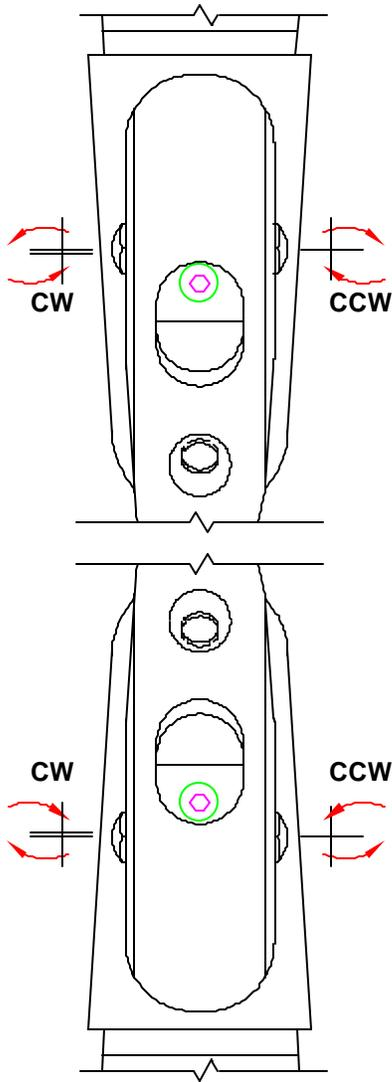
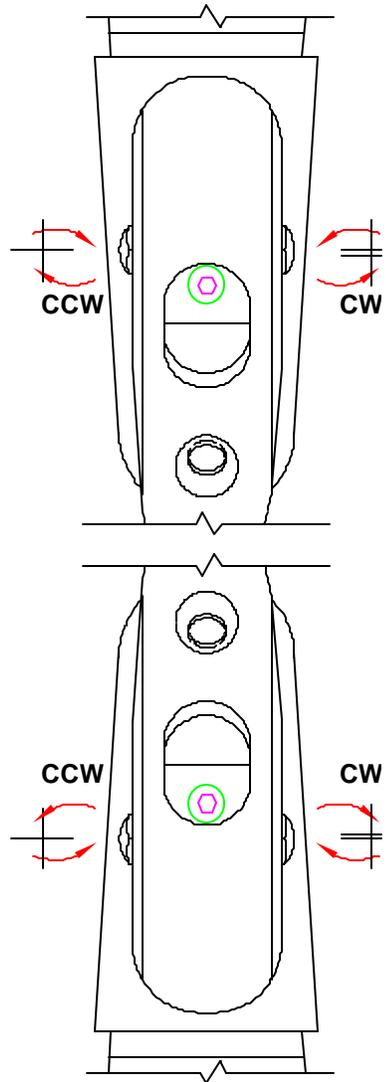

Fig. 2a
Fig. 2b
1. First string the Avalon Plus riser and limbs only. Check the limb alignment by viewing down the bowstring from end to end on the face of the bow. While looking down the string line, check the location of the tip you are holding to the face of the limb in your hand. The limb tip should be in the center of the limb, like shown in Fig. 1. If the tip is to the left of center, like Fig. 1a, follow the directions in Fig. 2a. If the tip is to the right of center, follow the directions in Fig. 2b.
2. Next, center the string through the top and bottom of the riser. If you have a set of alignment blocks, place them on both the top and bottom limbs. If you don't have alignment blocks, make a small mark in the center of each limb approximately 2" from the riser. Then, align the string so that it runs through the center of the top limb mark, the top weight adjustment screw, the bottom weight adjustment screw and the mark on the bottom limb as in Fig. 3. You can also attach your center stabilizer for another reference point. If the mark is to the left of the desired location move the adjustment screws as in Fig. 2a, if the mark is to the right of the string, move the adjustment screws as in Fig. 2a. If the mark is to the right of the string, move the adjustment screws like Fig. 2b. Continue to do this until the string runs along the center of all these points.
Fig. 2a - Viewing from the rear or bowstring side, loosen the center set screw. Then loosen the screw on the right side of the riser by turning counterclockwise and tighten the opposing screw (left side) by turning it clockwise an equal amount. Make adjustments in small increments (1/8 to 1/4 turn at a time). Tighten center set screw after adjustments.
Fig. 2b - Viewing from the rear or bowstring side, loosen the center set screw. Then loosen the screw on the left side of the riser by turning counterclockwise and tighten the opposing screw (right side) by turning it clockwise an equal amount. Make adjustments in small increments (1/8 to 1/4 turn at a time). Tighten center set screw after adjustments.
3. The next step is to center the string through the “true center” of the bow. The true center of the Avalon Plus bow is about .41” outside the sight window. So in order to get the string aligned in the true center of the riser, you must get the string as close to this point as possible. I have found that half the width of the string (using a standard of 18 strand Fast Flight) and a 23XX Easton arrow shaft’s diameter actually equals .41” the exact distance needed from the sight window to the string. So in order to align the string to the true center of the riser, place the 23XX arrow shaft under the clicker and right above the plunger hole, it is critical that the arrow lies completely flat along the sight window. Then, extend the arrow out until it runs along the string, while the arrow is still lying flat against the window. The arrow should be placed between the sight window and the string. From there adjust the screws together (top and bottom) until the arrow is just touching the string on the outside as in Fig. 4. For right handers, if you want to move the string in towards the arrow, move the adjustments like Fig. 2b. If you want to move the string away from the arrow make the adjustments in Fig. 2a. Left-handed archers will be just the opposite.